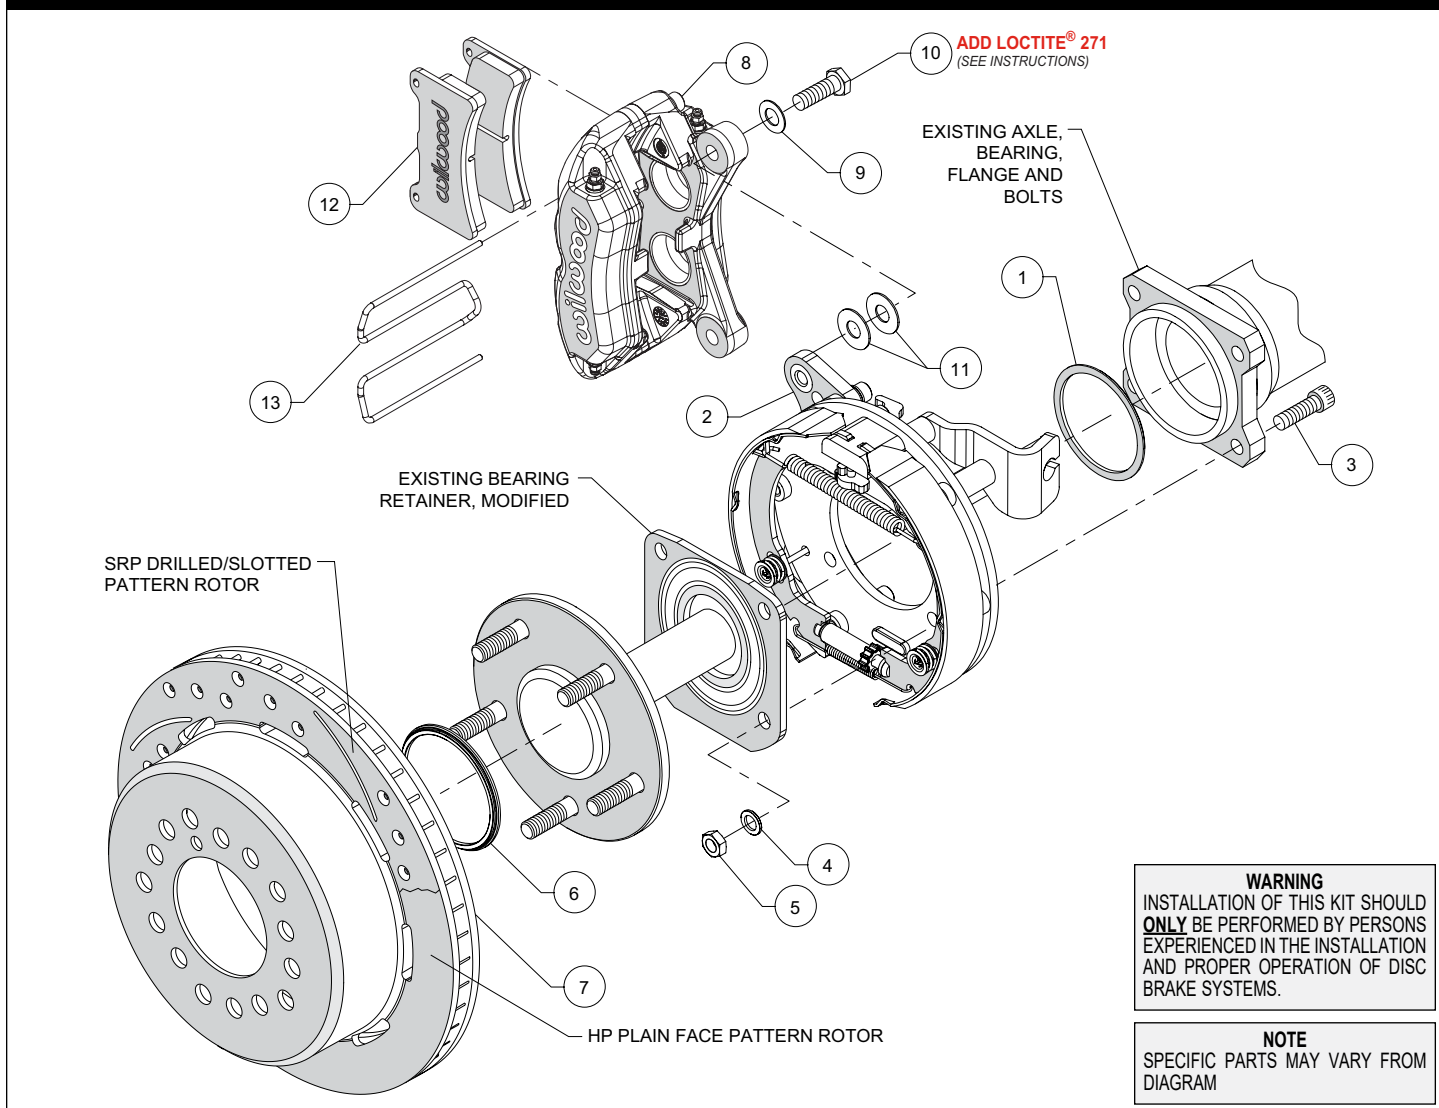
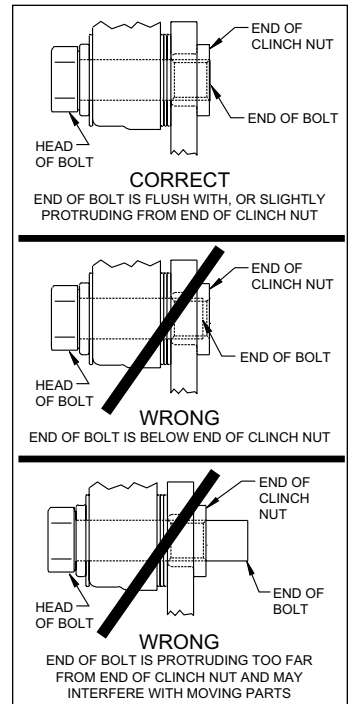

Figure 1. Typical Installation Configuration
Figure 5. Clinch Nut Engagement Diagram
NOTE: Numbers in parenthesis refer to the parts list and Figure 1 on the preceding pages.
CAUTION: All mounting bolts must fully engage clinch nuts. Be sure to check that all bolts are either flush or protruding through flanged side of clinch nut after shimming, Figure 5.
- With the bearing retainer in place, slide the caliper mounting bracket assembly (2) onto the axle as shown in Figure 1 and Photo 1. Install axle shim (1) over axle shaft with bearing chamfer facing toward the axle housing, as shown in Photo 2.
- Slide the axle and parking brake assembly into the axle housing ensuring that the backing plate is flush with the axle housing flange and the bearing retainer is flush with the backing plate. Secure OEM bearing retainer using bolts (3), washers (4) and lock nuts (5), as shown in Figure 1. Lock nuts (5) and washers (4) that retain the caliper mounting bracket assembly (2) should be on the wheel side of the bracket, Figure 1. Torque nuts to 40 ft-lbs.
- Slide the rotor registration adapter (6) onto the axle register on the axle flange with the smaller O.D. facing toward the rotor/hat (7), Photo 3. Align the correct hole pattern in the rotor/hat with the stud pattern on the axle flange and slide into place, Figure 1 and Photo 4. **NOTE:** The rotor/hat must fit flush against the axle flange or excessive rotor run out may result. Install three lug nuts (finger tight) to keep the rotor/hat assembly in place while continuing with the installation. **NOTE:** Some OEM and after market axles come with stud sizes larger than 0.50" diameter. Verify stud size and have a qualified machine shop drill the bolt circle of the hat/rotor to the correct stud size, if necessary.
- NOTE:** Please reference the caution statement at the beginning of the assembly instructions. Mount the caliper (8) onto the caliper mounting bracket (2) using bolts (10) and washers (9), as shown in Figure 1. Initially place two .035" thick shims (11) on each bolt between the caliper and the bracket, Photo 5. Temporarily tighten the mounting bolts and view the rotor (7) through the top opening of the caliper. The rotor should be centered in the caliper, Photo 6. If not, adjust by adding or subtracting shims between the bracket and the caliper. Always use the same amount of shims on each of the two mounting bolts. **NOTE:** The end of each bolt must be flush with or slightly protruding from the head of the clinch nut, as shown in Figure 5. If necessary place spare shims between washer (9) and caliper mounting ear to achieve the proper clinch nut engagement. Once the caliper alignment and clinch nut engagement are correct, remove the bolts one at a time, apply red *Loctite*® 271 to bolt threads, and torque to 40 ft-lb.
- Install the disc brake pads (12) into the caliper, with the friction material facing the rotor (7), and secure in place using pad clip retainer (13), Photo 7.
- NOTE:** Clevis and cable kits which attach to the parking brake assembly are not included in the Wilwood parking brake kit. Wilwood offers a custom parking brake cable kit, P/N 330-11985 for the Corvette, and P/N 330-11986 for the Impala which can be ordered separately from your local Wilwood dealer or by calling Wilwood customer service at (805) 388-1188.
- Before final installation of the wheel, install three lug nuts, remove the rubber grommet in the bracket kit assembly (2) and adjust the parking brake shoes outward (using a drum shoe adjustment tool available at your local auto parts store) while spinning the rotor/hat (7) until a slight drag is felt against the hat/drum. Replace the rubber grommet when finished.